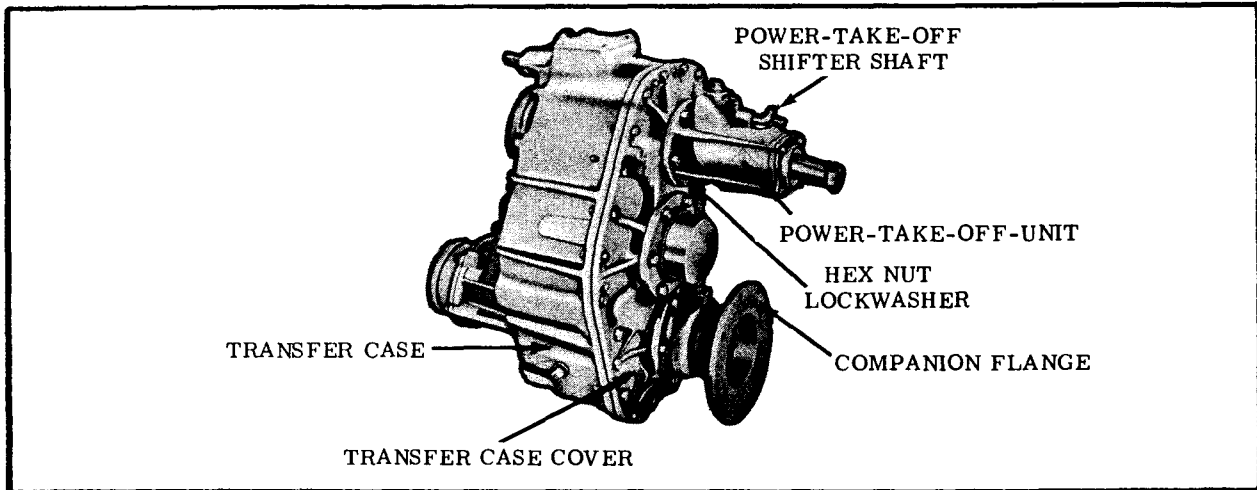

Figure 2. Transfer Case-Rear View.
a. Remove Power-Take-Off Unit. Remove the nuts and lock washers that secure the power take-off unit (fig. 2) to the transfer case cover. Lift the power-take-off unit, gasket, and shims from the transfer case cover. Tie the shims to the power-take-off unit to facilitate adjustment when assembling.